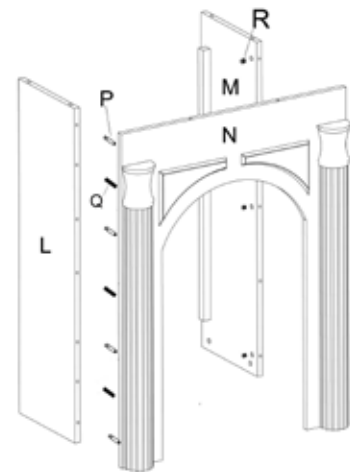

Figure 5
4. Place 6 WOOD DOWELS (Q) and screw 8 CAM DOWELS (P) into the FRONT PANEL (N) as shown in Figure 5. Insert 8 CAM LOCKS (R) into the mating holes in the LEFT/RIGHT TOP BOARD (L&M) with the triangle arrow pointing towards the hole in the edge. Mate the LEFT/RIGHT TOP BOARD (L&M) with WOOD DOWELS (Q) and CAM DOWELS (P) in FRONT PANEL (N) and twist CAM LOCKS (R) clockwise with a screwdriver to tighten the two boards to the panel.